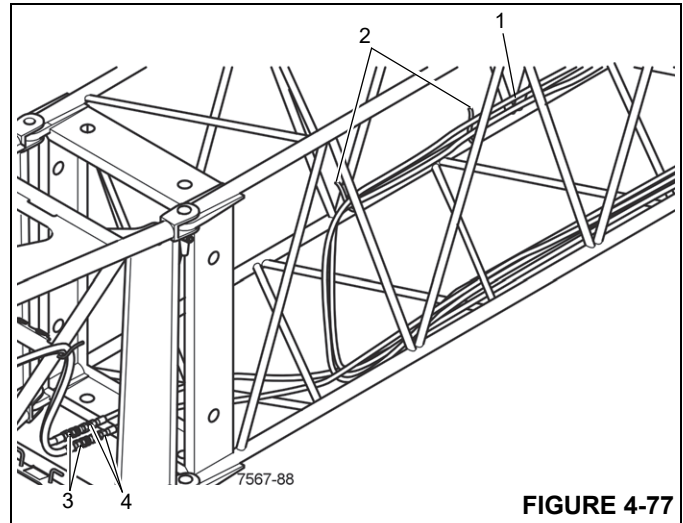

FIGURE 4-77
1. Remove the long hose (1) (Figure 4-77) from the holders (2) on the extension.
3. Remove the protective caps and connect the folding extensions hoses (3) to the long hose ends (4).
4. Secure the hoses (1) (Figure 4-77) to the holders (2) to ensure the hoses are not damaged during operation.
3. Secure the hoses (2) to the holder (3) in the 36 ft (11 m) section.
4. Stow the long hoses (1) (Figure 4-77) on the holders (2) provided.